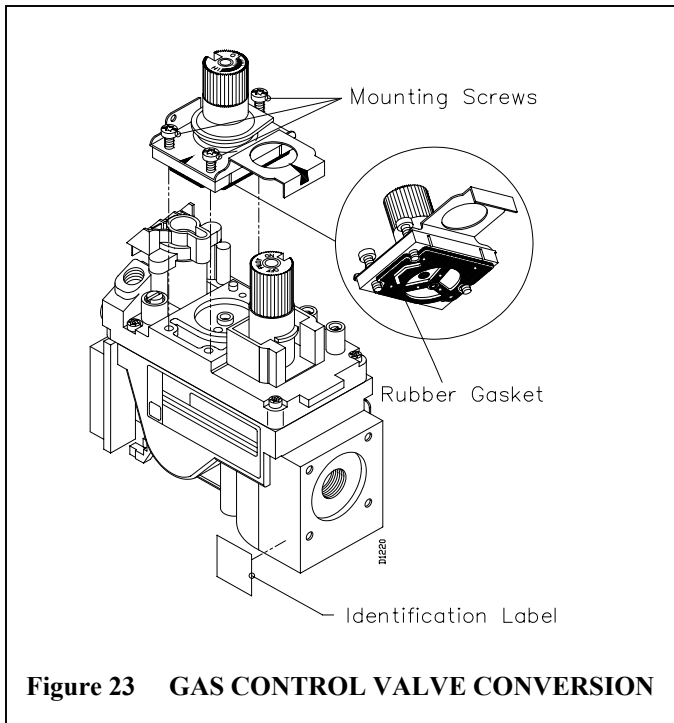

Figure 23 GAS CONTROL VALVE CONVERSION
- Insure that the rubber gasket is properly positioned on the new pressure regulator assembly. Install the new pressure regulator assembly to the valve using the new mounting screws supplied with the kit. Tighten the screws securely (approximately 25in-lbs.) (see figure 23).
- Install the identification label enclosed with the gas valve regulator to the valve body where it can easily be seen (see figure 23).